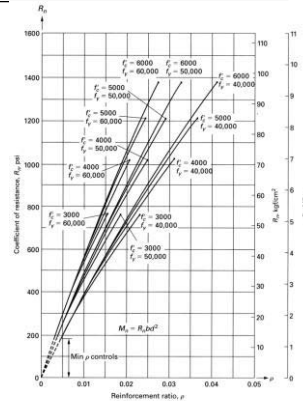

Figure 3.8.1 Strength curves ( $R_n$  vs  $\rho$ ) for singly reinforced rectangular sections. Upper limit of curves is at  $\rho_{max}$ .
- Fig. 3.8.1  $R_n$  vs.  $\rho$